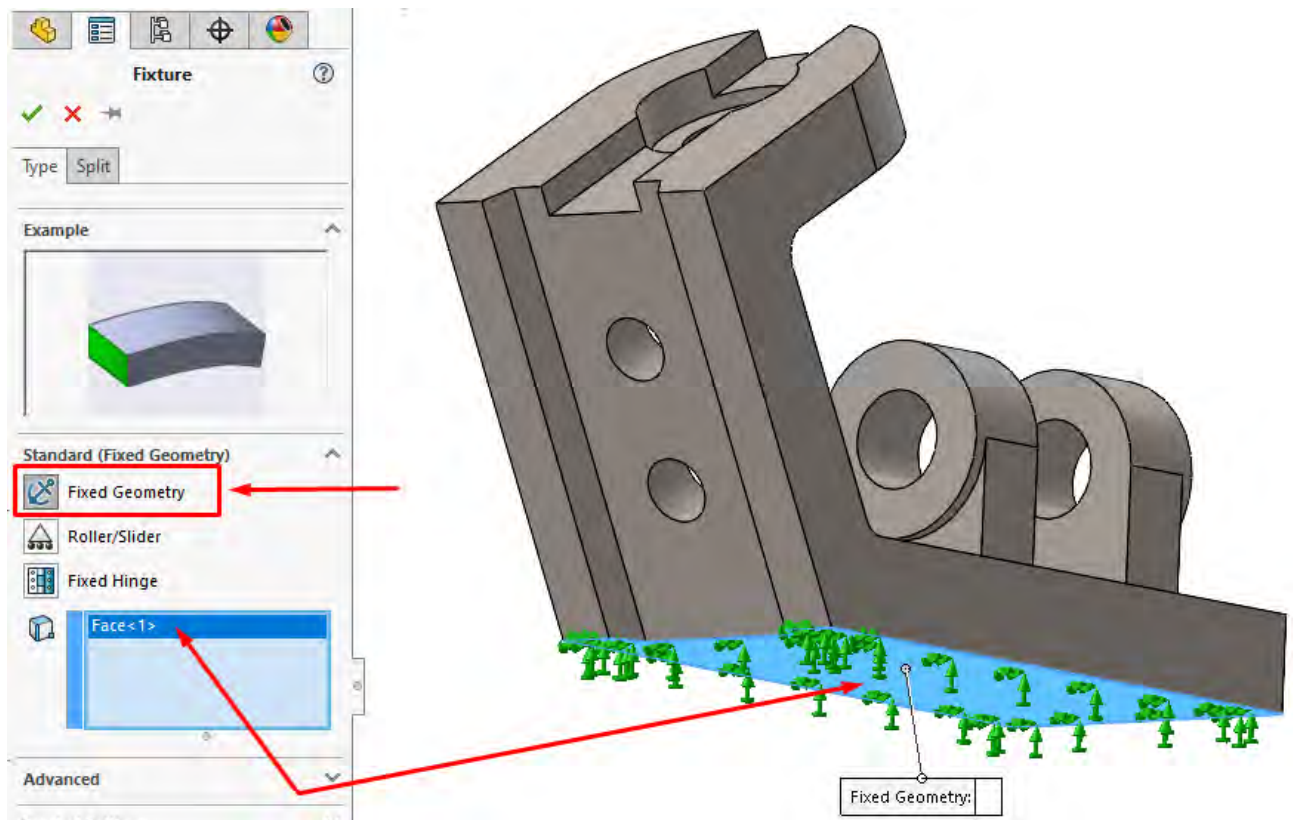

Figure 9 – Selecting a face for fixing a part
- In the blue box, Faces, Edges, Vertices for Fastening (Faces, Edges, Vertices for Fixture) select those faces (or other objects) of the model that should be fixed. The selected objects will be highlighted in the graphics window and added to the list (Fig. 9).
- Review the fastener symbols that will appear on the model (Fig. 9).
- Click the green check mark (OK).